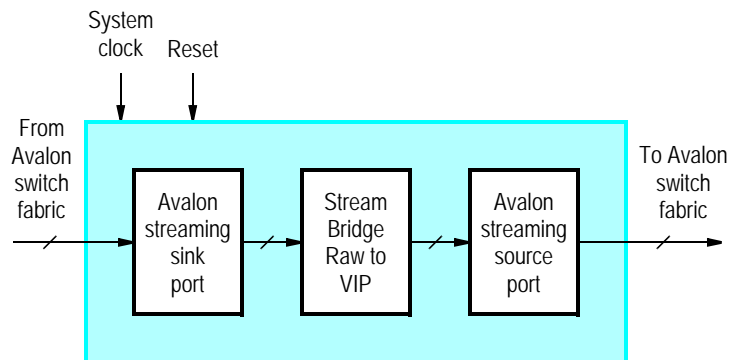

Figure 61. Video-Stream Bridge: Raw to VIP core's block diagram.
The Raw-to-VIP bridge take an input stream in the University Program (UP) video stream format and converts it to the VIP format. Then, the VIP-formatted data is outputted via the Avalon streaming source interface. Figure 61 shows a block diagram of the core. The UP video stream format is essentially raw video data, as described in Section 3.2.